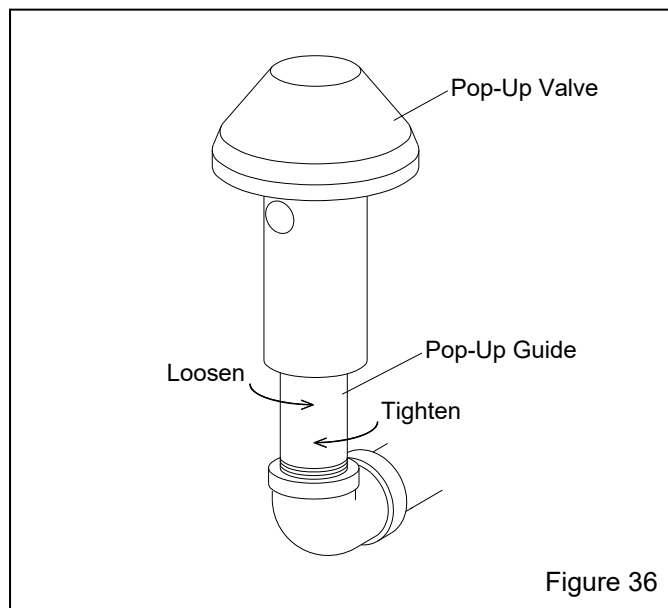

Figure 36
**7.10.5** Use a short pipe wrench to unscrew the pop-up valve guide from the elbow by turning it counterclockwise, as shown in Figure 36. Remove the pop-up valve and guide from the machine.